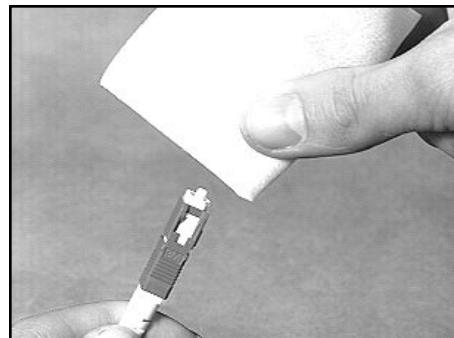

Fig. I2
A. Clean the ceramic ferrule of the connector with an isopropyl alcohol dampened lint-free cloth (Fig. I2) and immediately blow with compressed air.